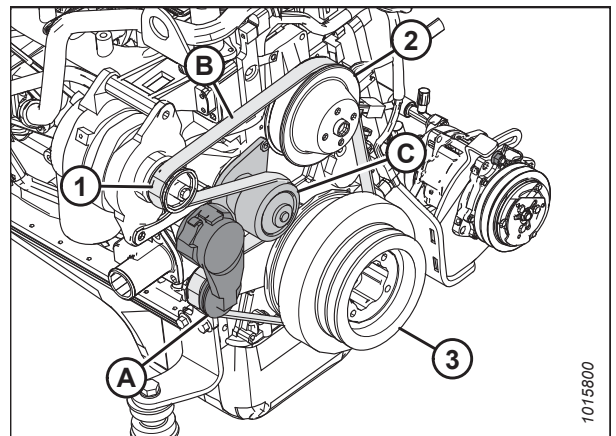

Figure 5.181: Engine Belt
5. Insert the drive end of a 1/2 in. drive ratchet wrench into belt tensioner (A).
6. Rotate tensioner counterclockwise until fan belt (B) can be slipped off pulley (C). Release the tensioner and remove the wrench.
7. Remove the belt in order 1, 2, 3, as shown in Figure 5.181, page 445.
8. Insert the drive end of a 1/2 in. drive ratchet wrench into belt tensioner (A).
9. Rotate the tensioner counterclockwise until belt (B) can be slipped onto pulley (C). Release the tensioner and remove the wrench.